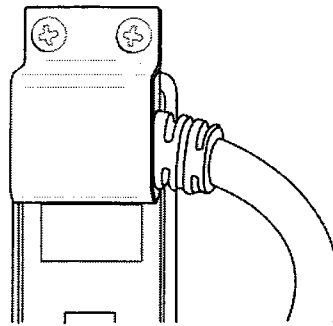

Figure 3.2 Power Cable Connector with Guard
1. Remove the (2) Phillips pan-head screws in the top portion of the power cable guard at the rear of the unit (see figure 3.2)